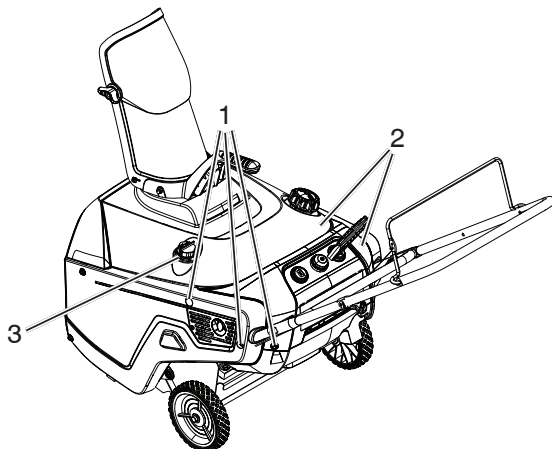

Figure 27
4. Remove the six screws that secure the shroud assembly (Figure 27).
6. Remove the shroud assembly (Figure 27).
15. Install the shroud with the screws removed in step 4 (Figure 27).